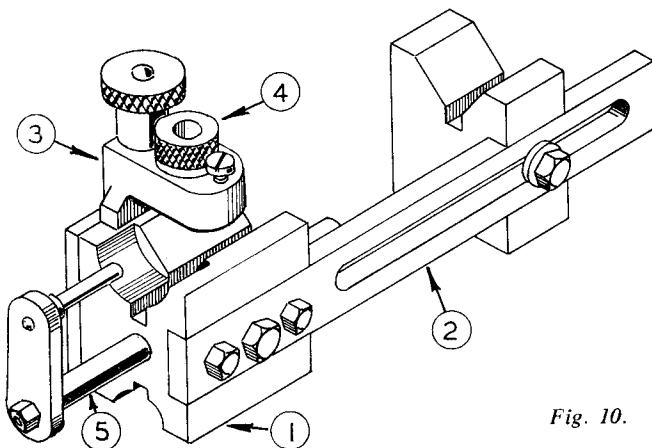

Fig. 10.
The Bridson precision jig shown in Fig. 10 will serve to illustrate the essential features of construction in an appliance of this kind, but its relatively high cost would militate against its inclusion in the equipment of the small workshop. A short description of the device will, however, indicate what is required when making a jig of this kind for the workshop. The large V-block (1), which is reversible on the extension bar (2) to accommodate either large or small diameter work, carries the angle bracket (3).